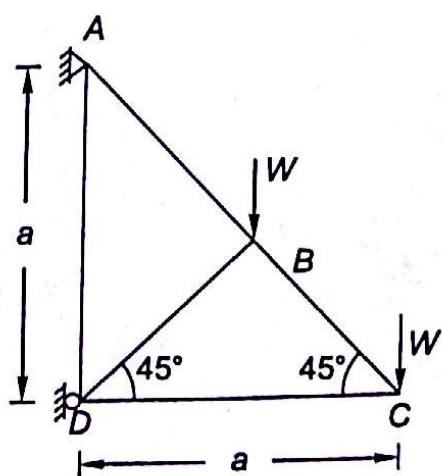

Fig. 4.32
4.3 A truss ABCD, hinged at A and roller supported at D carries vertical loads W each at joints B and C . What is the horizontal component of reaction at A (Fig. 4.32)?